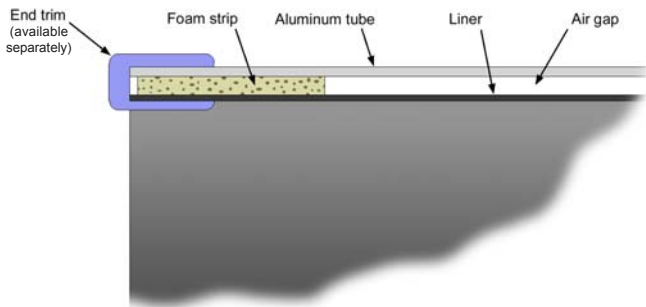

Figure 2: Cross section of typical tube end detail showing placement of foam strip and end trim.
- 3) Slide the liner inside the aluminum tube. Cut 1-2" wide strips of the foam sheet, and insert between the liner and aluminum wall (see **Figure 2**). Use a small metal rule, butterknife, or similar flat tool while progressively working around the circumference. Repeat the process at the other end of the tube. No adhesive or tape is necessary.